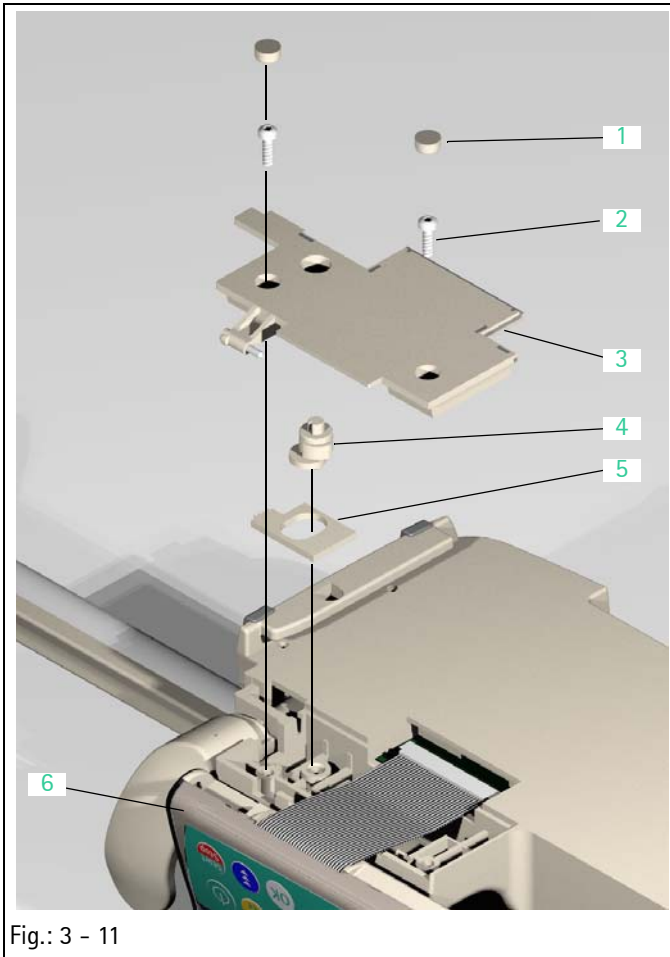

Fig.: 3 - 11
1. Pull the unit foot (Fig.: 3 - 10 / Item 1) out of the housing.
Legend of fig. 3 - 11: